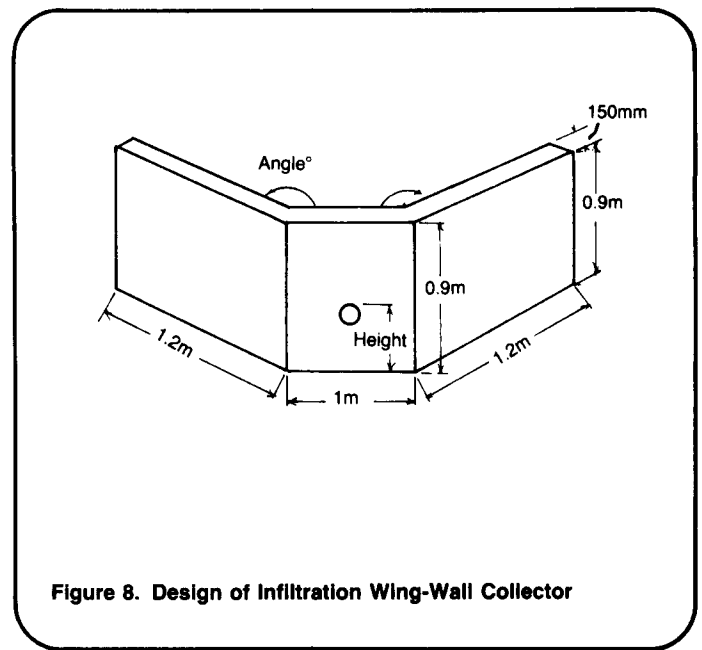

Figure 8. Design of Infiltration Wing-Wall Collector
3. Detail drawings of the intake to be constructed with all dimensions similar to the one shown for a winged-wall collector in Figure 8.
Determine the best size for the reinforced concrete structure. Size will depend on local conditions. The winged-walls must reach far enough into the stream to divert the water toward the intake into a pool which is always deep enough to submerge the intake pipe. The top of the structure stands above the riverbank so that the intake pipe is well supported in the walls and on the bank. The wall should be at least 0.15m-0.20m thick. The basic dimensions for the structure are shown in Figure 8.